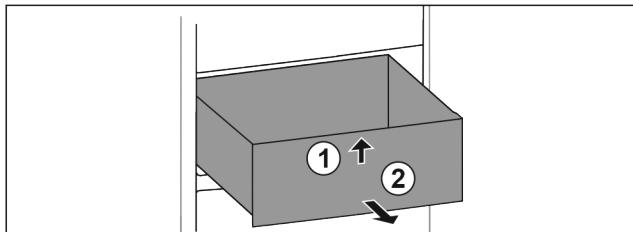

Fig. 120
- ▶ Lift up drawer at the front. Fig. 120 (1)
- ▶ Remove drawer to the front. Fig. 120 (2)